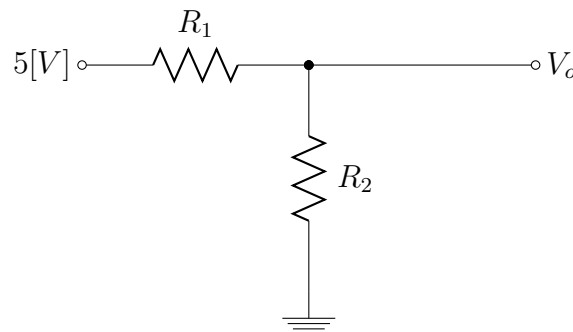

Figure 1: Voltage Divider Circuit
Using `analogRead()`, the voltage across a pair of resistors $R_1 = 22[k\Omega]$ and $R_2 = 270[\Omega]$. From Equation (1), we have calculated the expected voltage from the circuit shown in Figure 1.